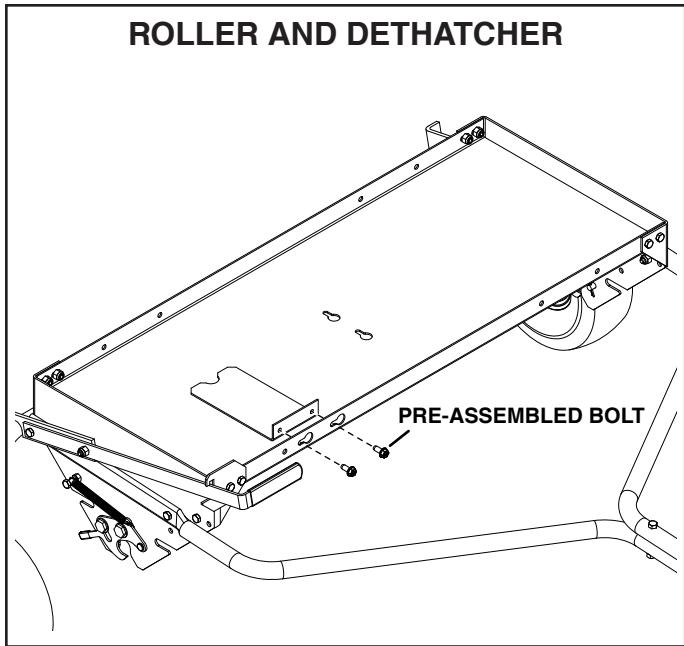

FIGURE 9
1. For roller and dethatcher tools, the center brace should be attached to the top of the Smartlink Platform as shown in figure 9. **Tighten**.